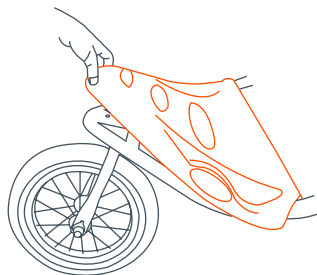

Fig. 23a
23) • Line up the front fender and press onto the front frame assembly (Fig. 23a).